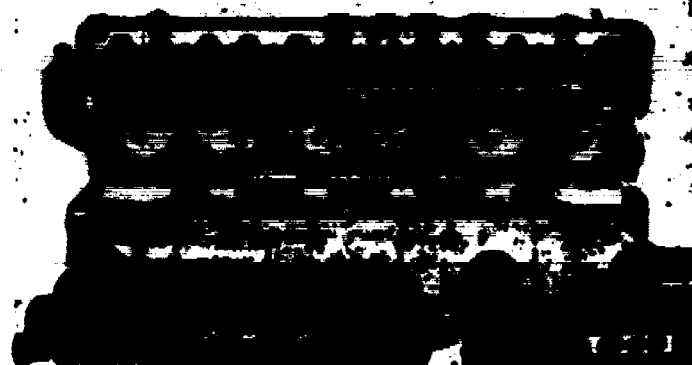

Fig. 9 - Removing Cylinder Head
17. Remove remaining cylinder head bolts and remove cylinder head and gasket. See Fig. 9.